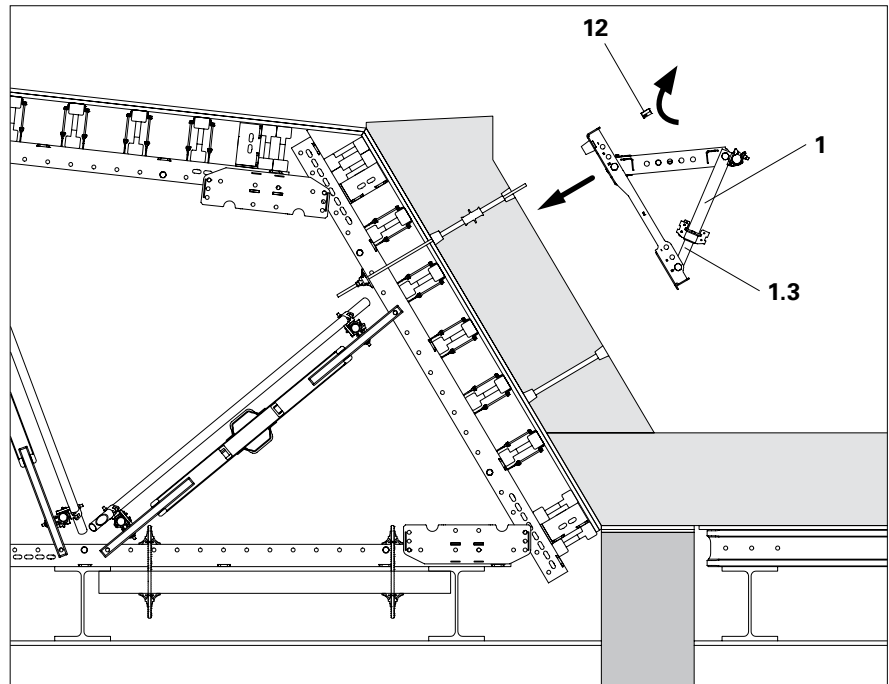

Fig. B3.01
2. Screw hex. nut (12) onto the Tie Rod.
4. Secure Wall Support with the hex. nut. (Fig. B3.01)